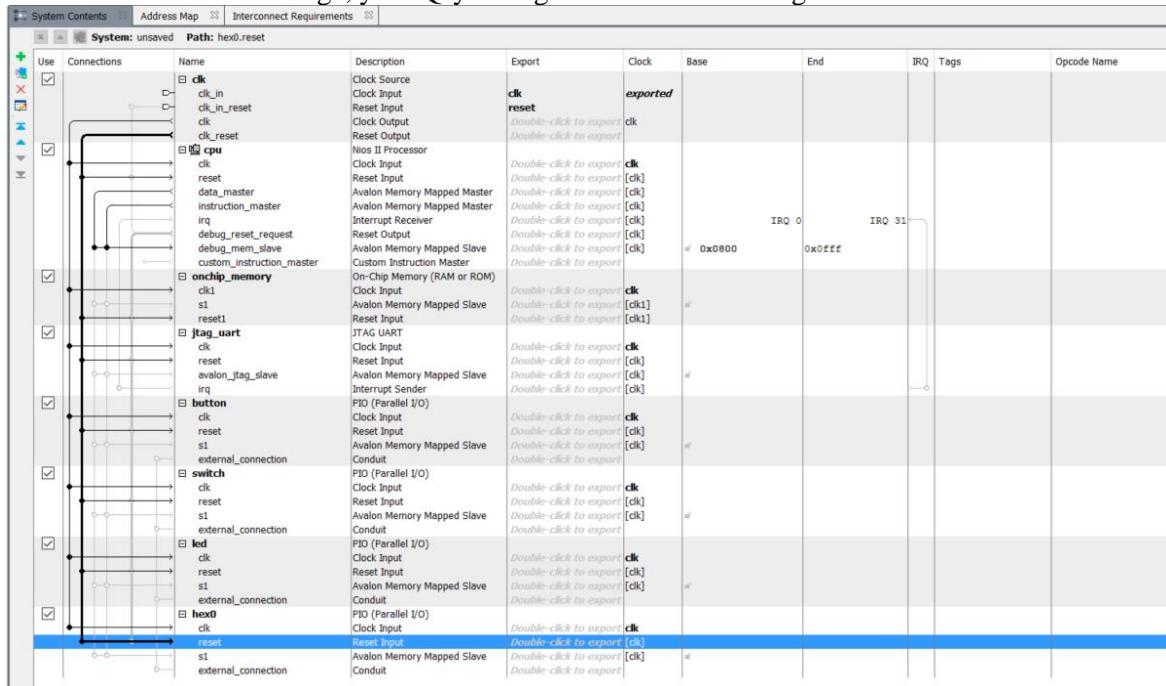

Figure 19: 'clk' and 'clk_reset' Connected in Qsys
a. At this stage, your Qsys design should look like Figure 19 below.